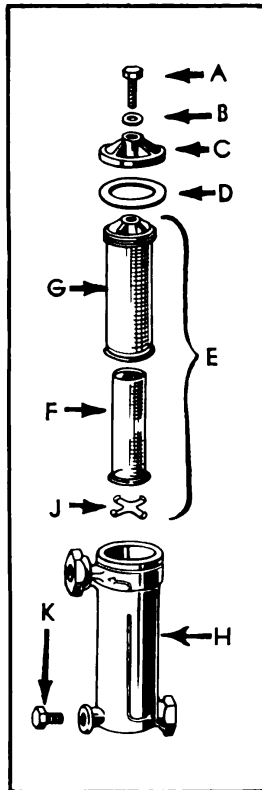

FIG. 24 Disassembly of Fuel Strainer
In such a case, first stop the engine, then with a wrench remove the hexagon capscrew (A) (See Fig. 24) and washer (B) at the top of the fuel strainer body. Lift off cover (C) and gasket (D). Remove screen assembly (E) by unscrewing it from the inside of the strainer body. This assembly consists of inner and outer screens (F and G) which may be separated after sliding off the bottom clip (J). Clean both screens. The brass plug (K) near the bottom of the strainer should be removed to permit flushing the strainer body (H). Replace plug (K), screw screen assembly (E) in place, replace gasket (D) and cover (C), and tighten down with capscrew (A) and washer (B). Make sure that the cap is tight to prevent air leaks in the fuel suction line.